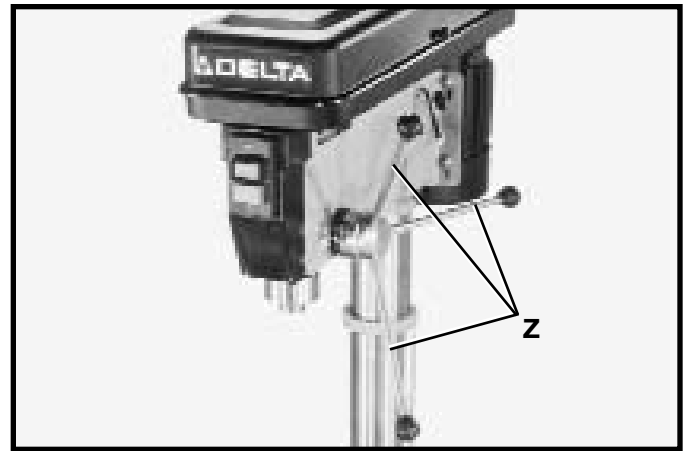

Fig. 12
12. Thread the three pinion wheel handles (Z) Fig. 12, into the three threaded holes in the pinion shaft, as shown.